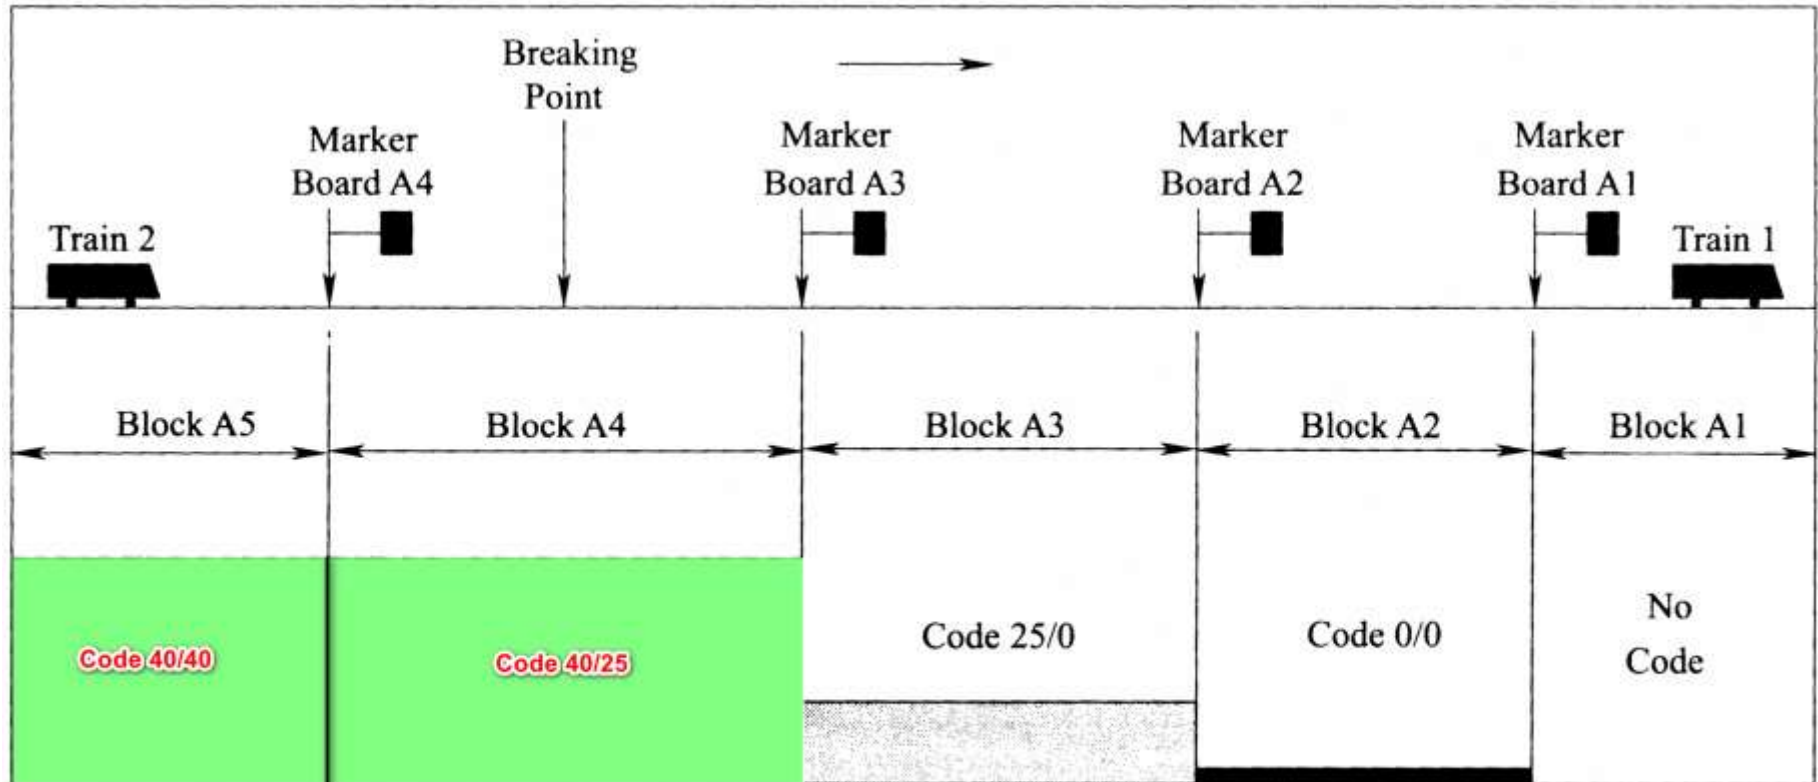

Fig. 6.3 Diagram of operation with ATP
- ◆ In our example below (Fig.6.3), he would begin braking somewhere around the **brake initiation point** because he would see the 40/25 code on his display and would know, from his knowledge of the line, where he will have to stop.